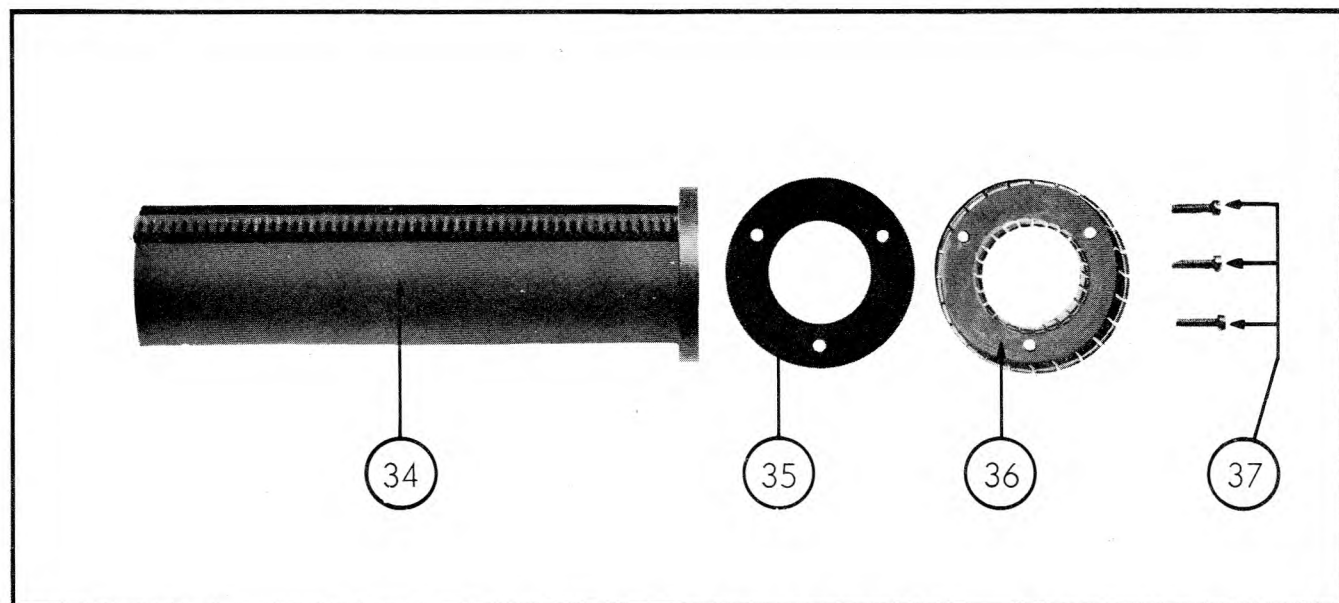
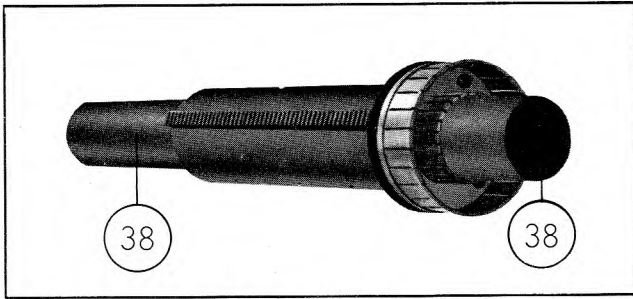

Figure 4-25. Parts Comprising Brush Assembly
Figure 4-26. Alignment of Brush Assembly
Figures 4-25 and 4-27 show the assembly of the cavity wiper carriage. The cavity inner conductor (38) should be used to align the parts as shown in figure 4-26 before the 4-40 x 3/8 inch screws (37) are tightened. It is important that the wiper (36) be well centralized and that all of the wiper contacts on the inner circle make good contact with the inner conductor before the screws are tightened. The screws should then be tightened a little at a time without disturbing the alignment of the system. If the wiper is not properly aligned, the oscillator will be inoperative or erratic. Remove the inner conductor from the assembly.